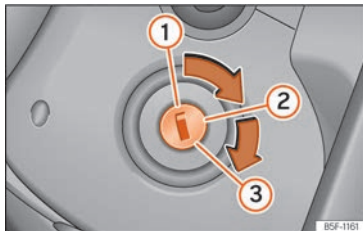

Fig. 157 Ignition key positions.
Key positions »» Fig. 157
- Turn the key to position »» Fig. 157 ②. Pre-heating occurs in diesel vehicles .
- Keep turning the key to position »» Fig. 157 ③ without stepping on the accelerator.
- Once the engine starts, release the key. When it is released, the key returns to position ②.
- *Vehicles with ignition locks:* Turn the key to position »» **Fig. 157** ⓘ.